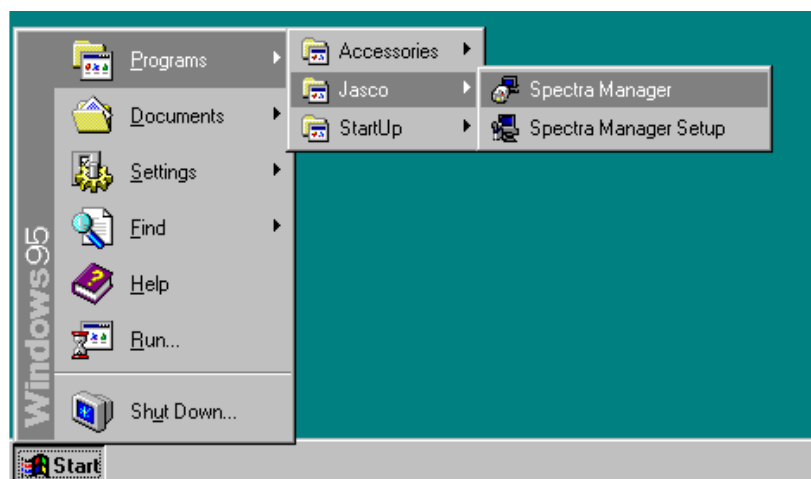
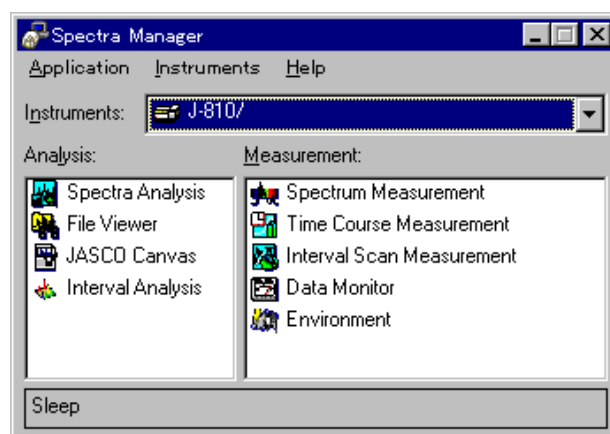

Fig. 2.1 Windows start screen
Fig. 2.2 [Spectra Manager] window
Start [Spectra Manager] of [jasco] according to the Windows starting procedure. (See Fig. 2.1.) Spectra Manager window appears. (See Fig. 2.2.)
Note: Fig. 2.2 shows the program menu of the standard spectropolarimeter.
- (3) Click on the arrow (▼) at extreme left of the [Instrument] box to display the instrument list and select J-810 from the list. The menu in Fig. 2.2 appears.
Starting the measurement program (icon at left in Fig. 2.2) starts the spectropolarimeter and lights the light source. About two minutes are required to start the spectropolarimeter. Actions during start are reported by messages.